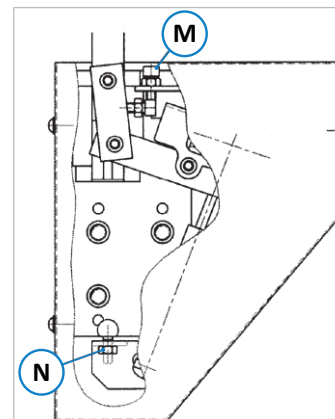

Figure 6: Stroke and damping
- The stroke adjustment (up to a maximum of 75 mm) of the bridge in relation to the table is done with the screw (M) shown in ⇒ Figure 6.